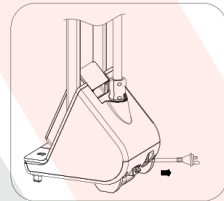
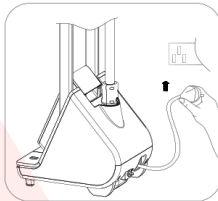
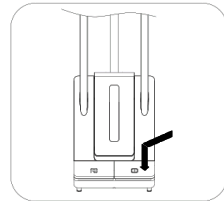

Fig. 12
Fig. 13
Fig. 14
- Fill the water from the water filled cover, opne the cover of water tank, fill the water into water tank. Fig.12, Fig.13, Fig.14.
- The coil of thread is used, the power supply cord : (out from behind the twelve), the socket. don't use up with a foot pedal, the roll line and power cable will be automatically shrunk to the roll line and effectively operate to diminish the power line with the object of frictional effects. Two gears steam adjustable: the power supply cord (sauntered) the lights and steam (the foot as in figure 14), on the back of the first light (yello light show) steam can be used to express one gear on the second down (back light green light to show from the second seeds) steam can be used.